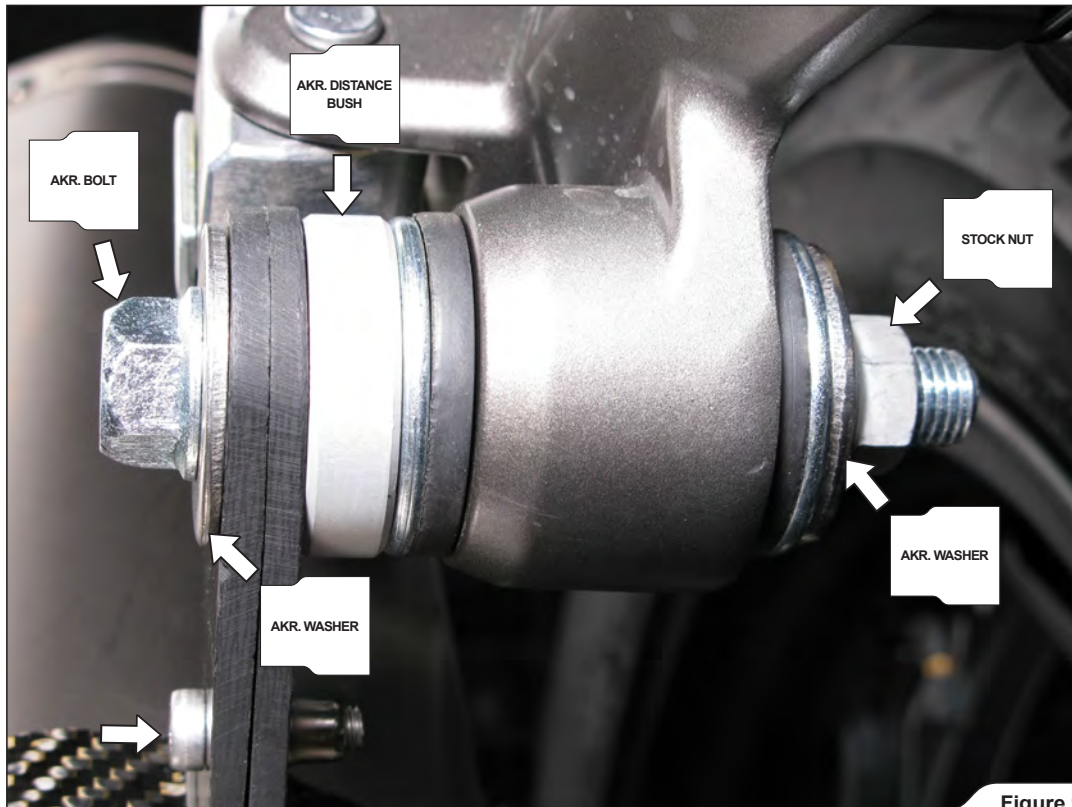

Figure 9
5. Correctly assemble and hand tighten the muffler clamp's bolt and clamp onto the bracket (using bolt, washers, aluminium distance bush from Akrapovič installation kit and stock nut) (Figure 9).